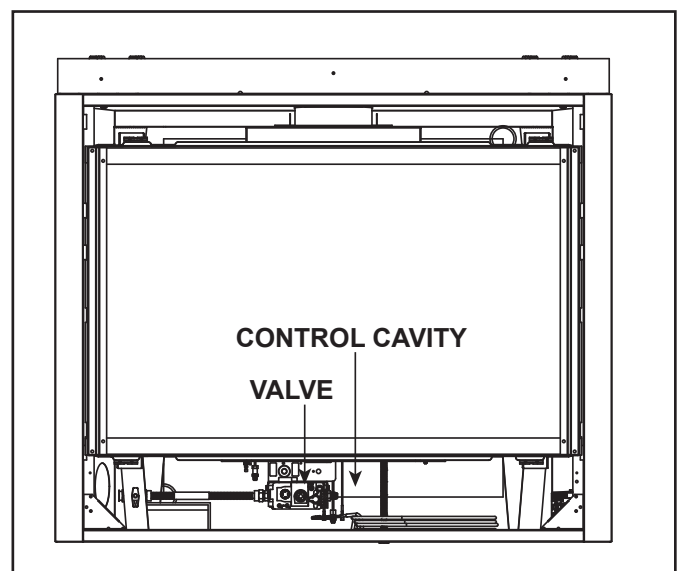

Figure 3.5 Control Cavity
The SL-5, SL-7 and SL-9 models have a variable burn rate which is controlled by the HI/LO knob on the gas valve. Therefore the flame height is adjustable. The HI/LO knob is shown in Figure 3.5. It is located in the control cavity of the appliance. The HI/LO knob may be adjusted as desired by turning counterclockwise to the HIGH position and by turning clockwise to the LO position.
The IntelliFire intermittent pilot ignition system comes with a battery backup system that enables the system to operate in a power outage. A factory-installed battery pack is located in the control cavity of the appliance. See Figure 3.5. Batteries should not be placed in the battery tray while using electrical power to operate the fireplace. Remove batteries from battery tray when power has been restored.
1. Access the control cavity of the appliance. See Figure 3.5 for location. The decorative front or door may need to be removed.
2. Locate the battery tray and insert two D cell batteries. Battery polarity must be correct or module damage will occur. See Figure 3.5. A complete wiring diagram is included in the Electrical section of the appliance Installation Manual.